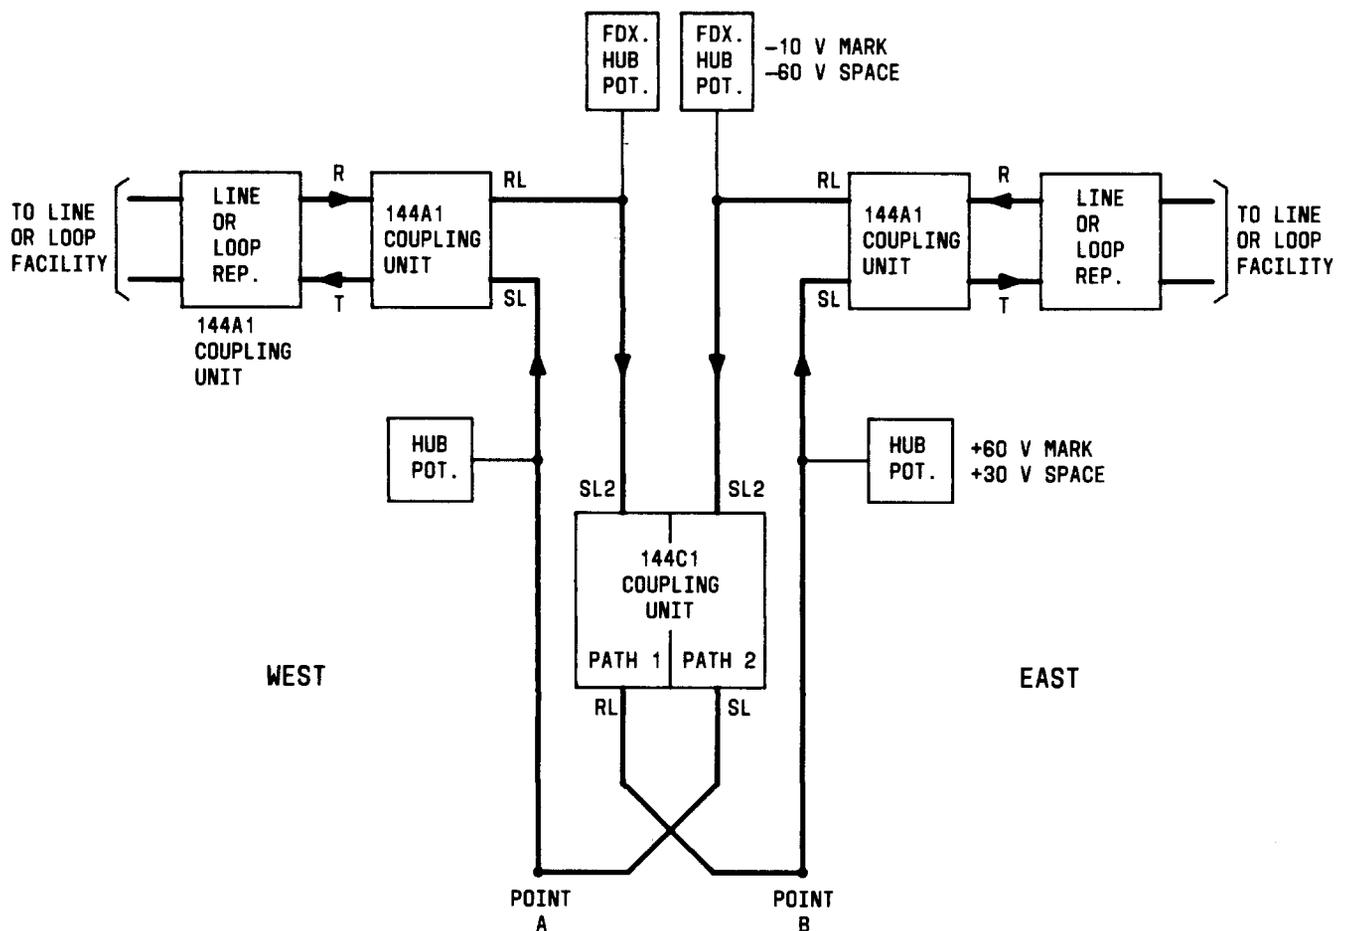

Fig. 4—144C1 Coupling Unit Arranged for Full-Duplex Service in Conjunction with 144A1 Coupling Units
to a full-duplex concentration group. In this application, the coupling unit acts as a connecting link between a -10 volt mark/-60 volt space full-duplex potentiometer and the regular +60 volt mark/-30 volt space hub potentiometer. The negative full-duplex potentiometer voltages disable the coupling unit's duplex control circuitry, and allow spaces to pass simultaneously in both directions through the coupling unit. Figure 4 shows the 144C1 coupling unit used in conjunction with two 144A1 coupling units for full-duplex operation. A full-duplex potentiometer is connected to the RL lead of each 144A1 coupling unit to enable the 144A1 coupling unit to operate full duplex. The RL lead of each 144A1 coupling unit is actually a full-duplex receive hub operating on -10 volt mark/-60 volt space signals. The 144C1 coupling unit interconnects the full-duplex hub used by the 144A1 coupling unit to a half-duplex hub circuit consisting of a hub potentiometer and the SL lead of the other 144A1 coupling unit.
3.05 One-way facilities (send only or receive only) may be connected to the RL leads of the 144C1 coupling unit, as required. One-way facilities transmitting toward the west or receiving from the east are connected to point A in Fig. 4. One-way facilities transmitting toward the east or receiving from the west are connected to point B in Fig. 4.